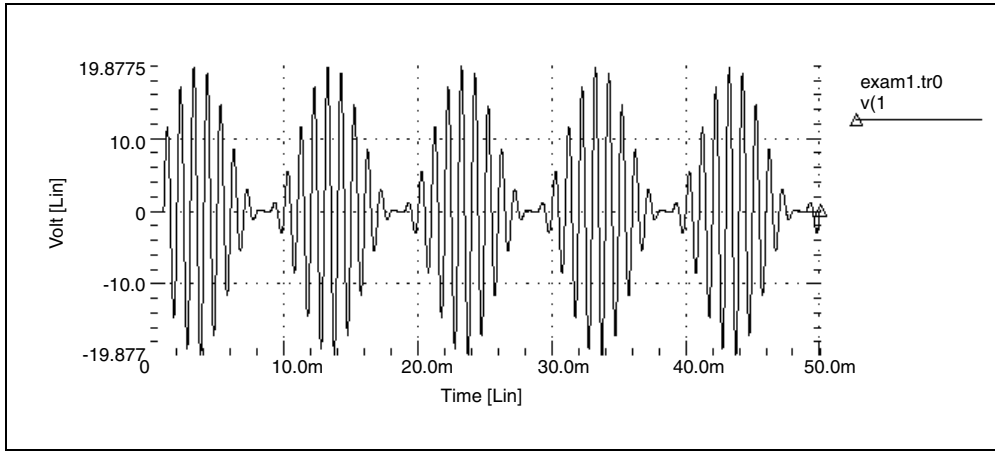
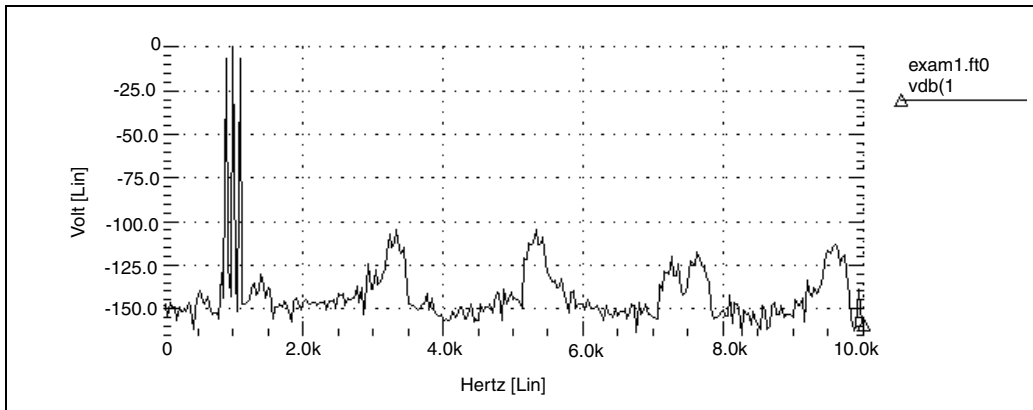

Figure 63 AM Modulation
Figure 64 AM Modulation Spectrum
Figure 63 and Figure 64 on page 564 display the results.
- Figure 63 shows the time-domain curve for node 1.
- Figure 64 shows the frequency-domain components, for the magnitude of node 1.